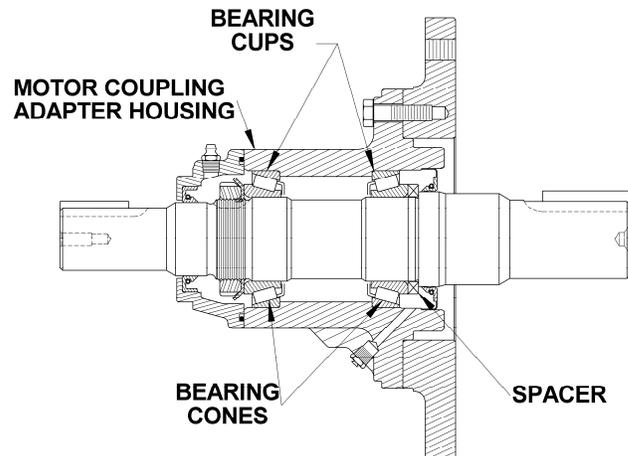

Figure 2 – Motor Coupling Adapter Assembly
1. Bearing cups must be installed prior to reassembly. When replacing the bearing, the entire two-piece bearing assembly, including the bearing cup and bearing cone, must be replaced, See Figure 2 for reference.